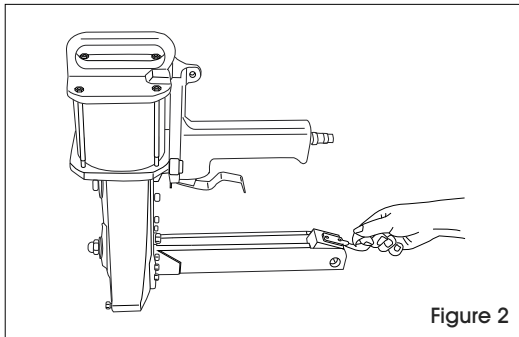

Figure 2
2. Pull pusher back until it stops on pusher guide, then rotate pusher to position. (See Figure 2)